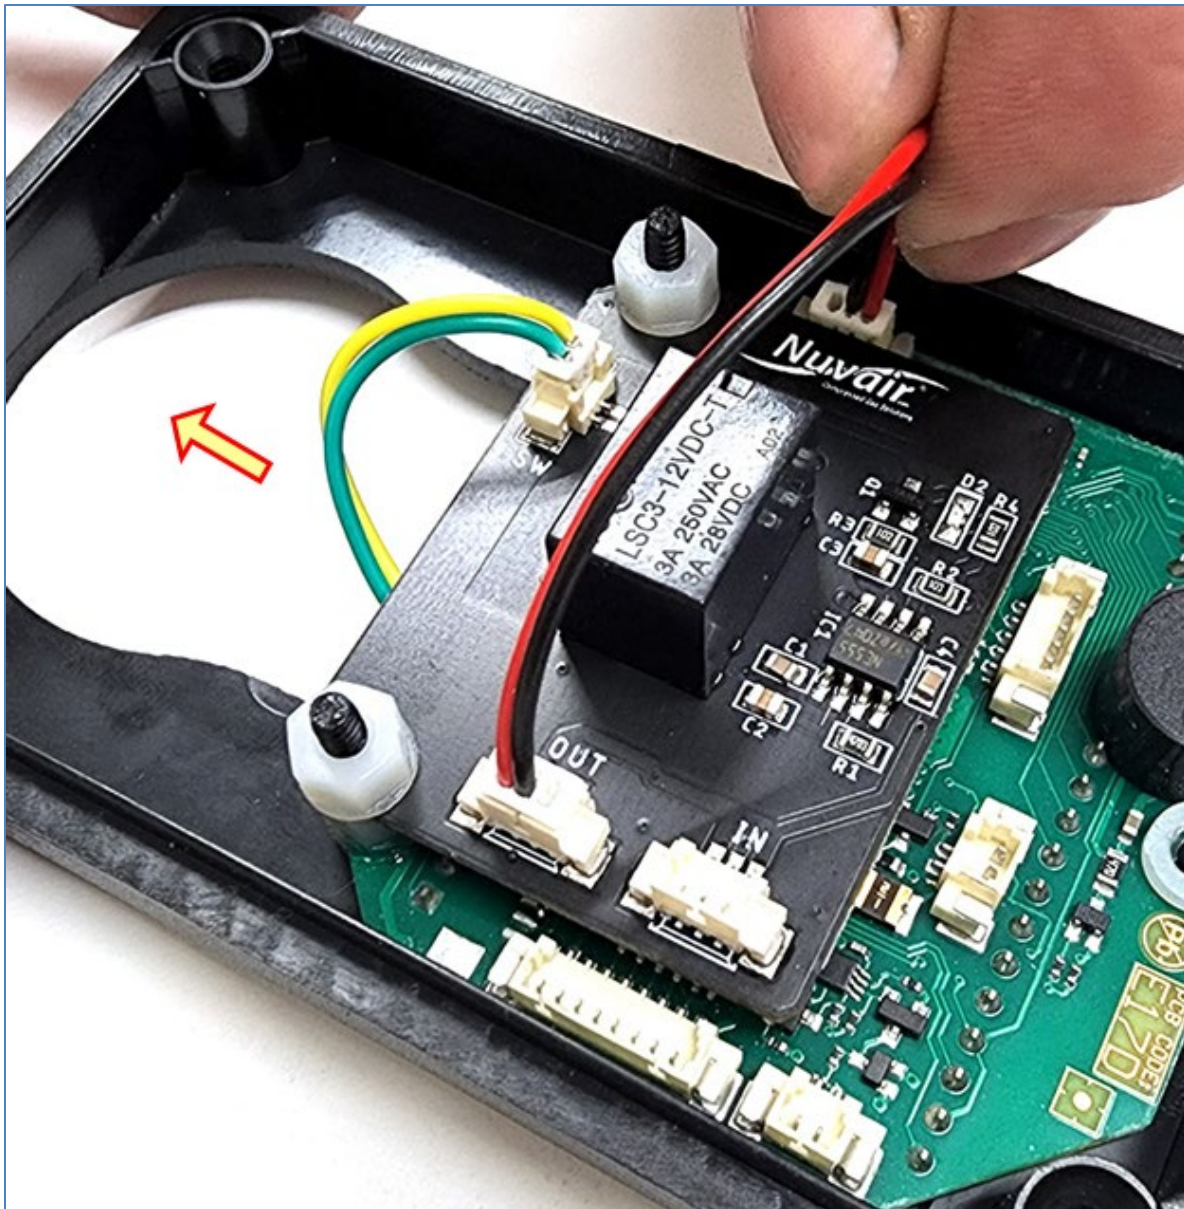

Figure 8. Connecting SMART START Module with flange nuts and wiring.
2. Using a 1/4 in nut driver, screw the two (2) white plastic flange nuts supplied with your SMART START kit onto screw.
4. Connect red and black wire jumper as pictured (Figure 8).